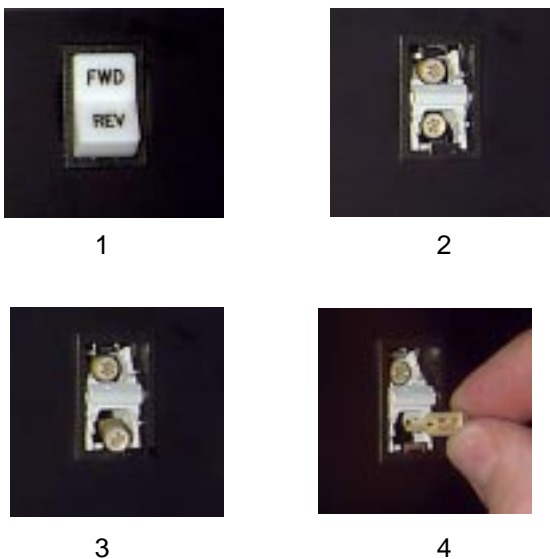

Figure 3.3 LED Disassembly/Assembly
3.5.1.1 Switch LED's (Figure 3.3)